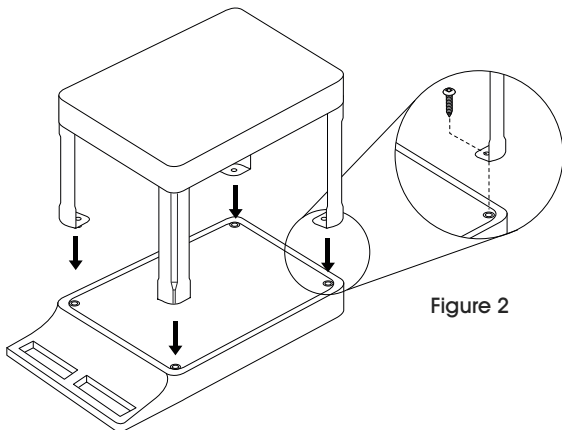

Figure 2
2. Flip bottom shelf over and screw supports into underside of top shelf using four screws. (See Figure 2)